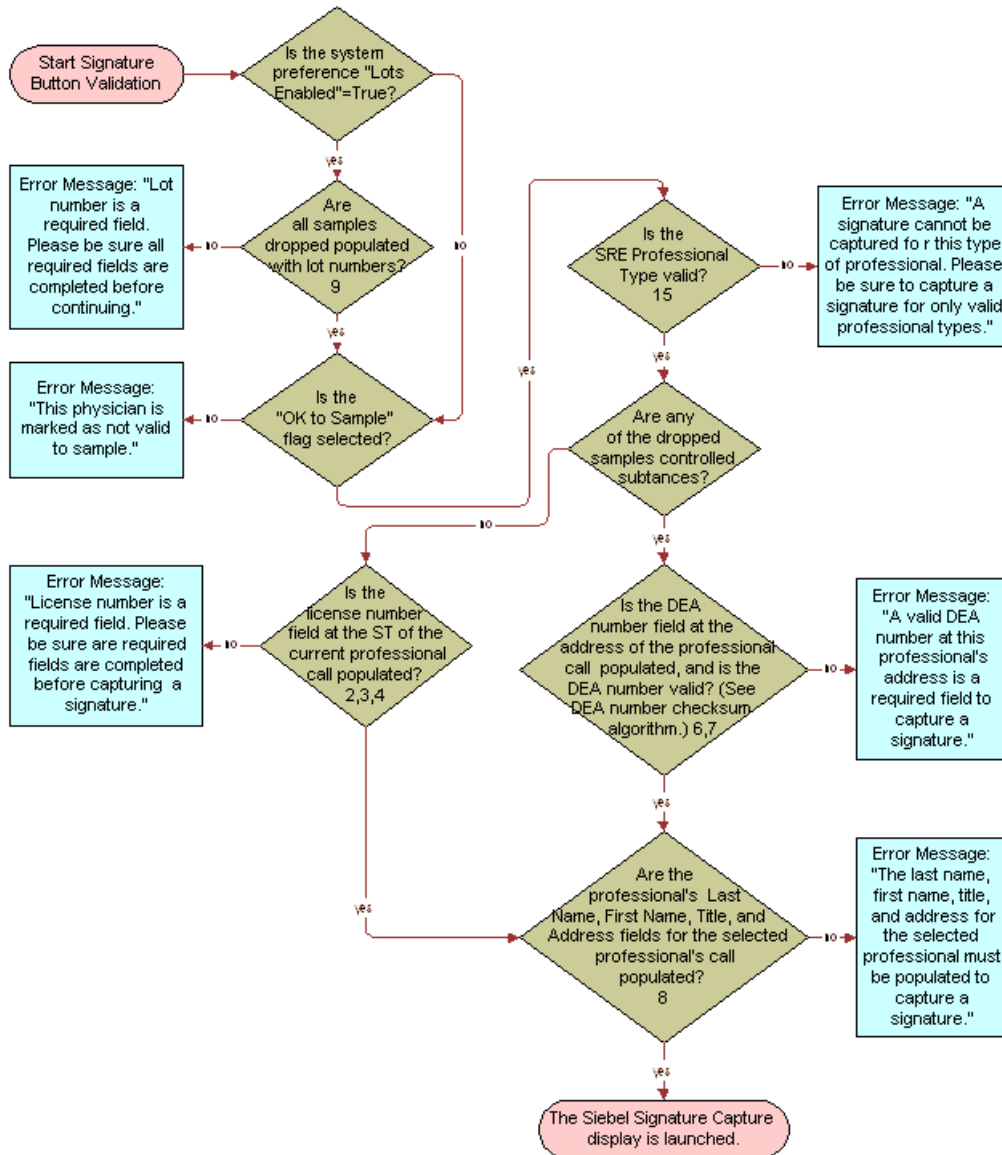

Figure 1. Default Validation Logic Flowchart for Signature Button
- Signature button, Figure 1 on page 78